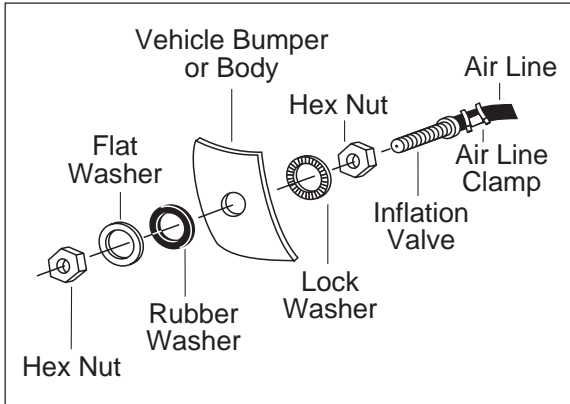

Figure 5
9. Drill  $\frac{5}{16}$  " hole for inflation valve and mount as in illustration (Figure 5). Rubber washer is for outside weather seal.
7. Drill  $\frac{5}{16}$  " hole for inflating valves and mount as illustrated. Rubber washer is for outside weather seal (Figure 5).